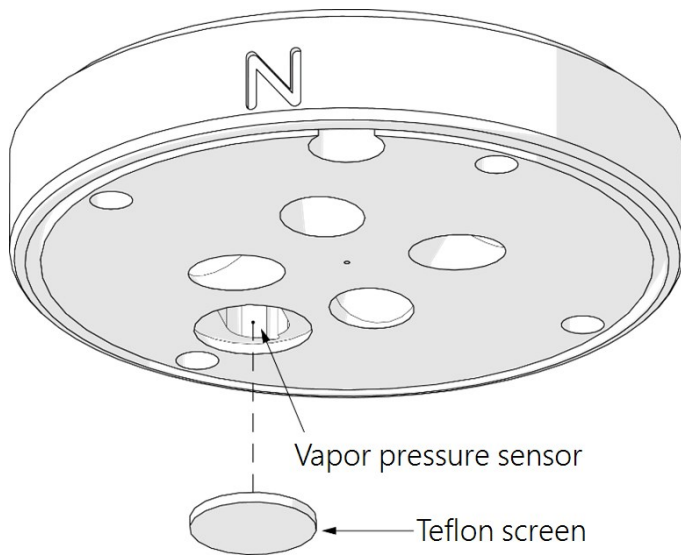

Figure 8-4. Teflon screen
4. Inspect the Teflon screen (Figure 8-4 [p. 23]) and replace if dirty.
6. Relative humidity and barometric pressure maintenance. A field-replaceable module contains the barometric pressure and relative humidity sensors. This module is under the Teflon screen (Figure 8-4 [p. 23]) and should be replaced every two years.